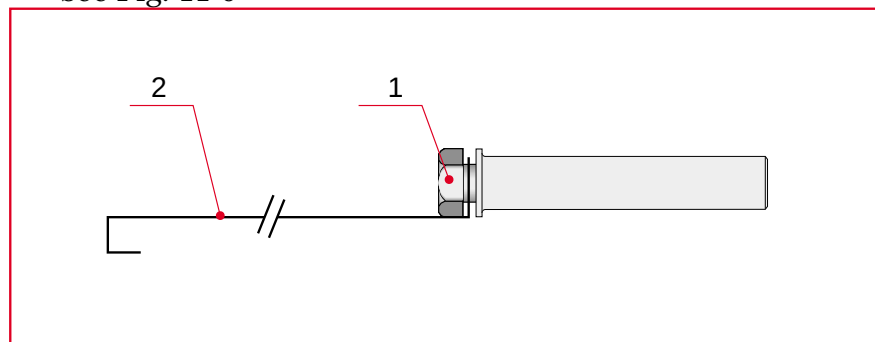

Fig. 11-6
- 6 Fit each pin with a HM 12x20 screw (1)** and a wire (2) see Fig. 11-6